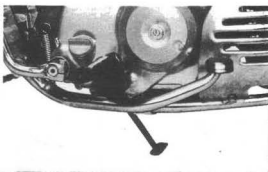

Fig. 94
- (1) Clean all parts and lubricate the brake pedal pivot pipe with grease before re-assembly. Reinstall the rear brake arm, brake pedal middle arm and brake pedal to the pivot pipe.
- (2) Hook the brake pedal spring and stop switch spring on the specified positions. Connect the rear brake cable to the rear brake arm.
- (3) Reinstall the step bar on the crankcase with four 8 mm hex bolts (Fig. 94)
- (4) Reinstall the muffler.
- (5) After connecting the rear brake, adjust the brake pedal play to 2~3 cm (0.787~1.181 in).